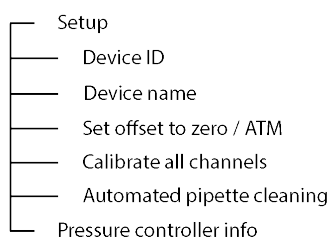

Figure 10. uMc pressure controller settings menu
*uMc pressure controller settings* menu can be entered from the uMp-TSC2 main view cogwheel symbol below the product symbol. Settings are specific to the uMc-PPC product and need to be configured to each of them separately. *uMc pressure controller settings* menu structure is shown in Figure 10.